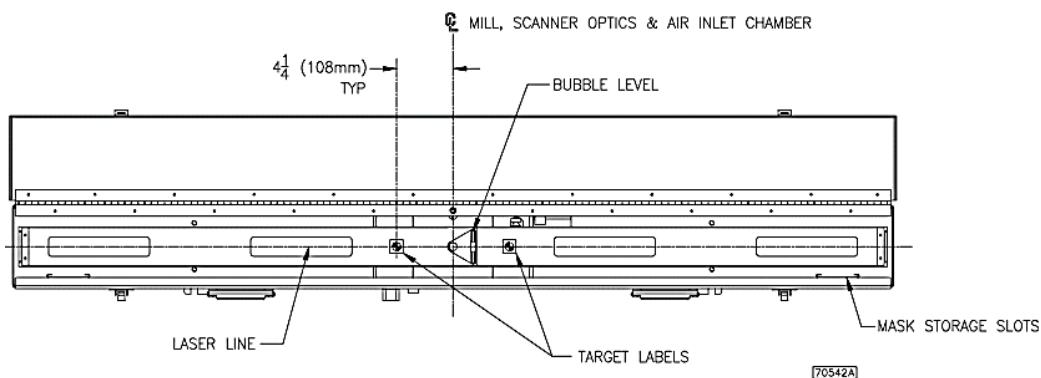

Figure 6.7 Laser line Position
- 4) Place the power and laser switches on the scanner power supply in the ON position. Observe the red registration laser line formed on the calibrator. For proper scanner alignment, the laser line should pass through both of the outermost tips of the triangular cutouts on the alignment masks. **The laser line cross hair should intersect the target label on the calibrator masks (Figure 6.7)**. When these conditions are satisfied, the scanner is properly aligned. Proceed to Step 6 to start the calibration process. If the laser line is not perfectly within the cutout, then proceed to step 5 for further adjustment.